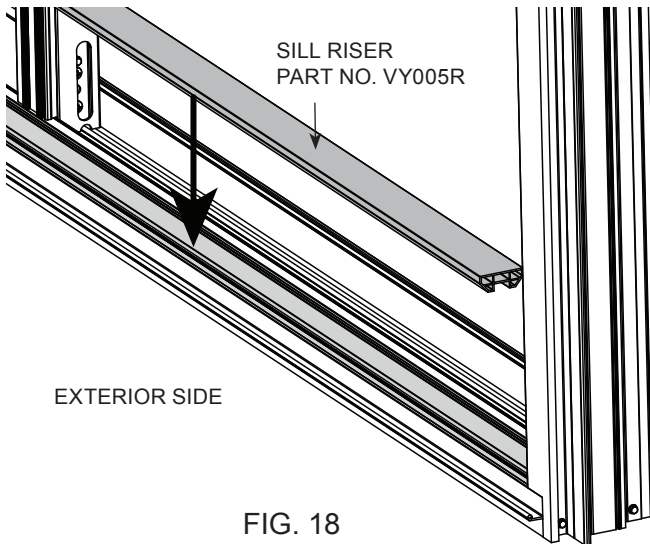

FIG. 18
1. Install the sill riser strip into the sill before the fixed panel. (FIG. 18)